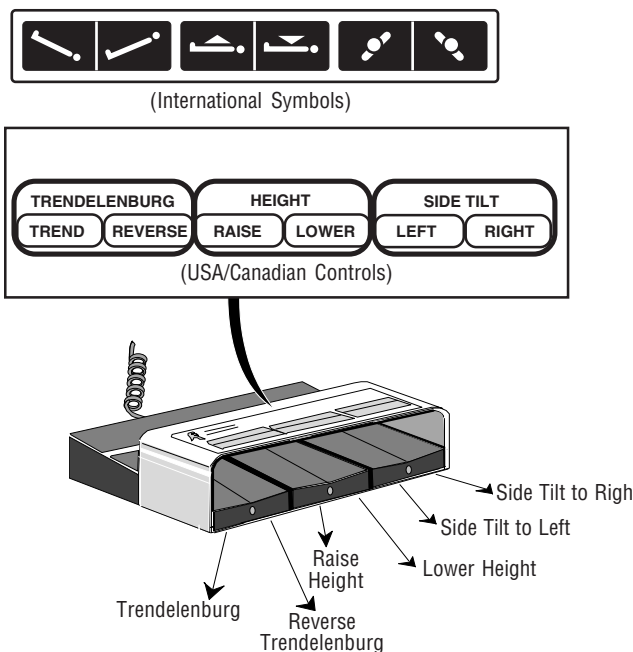

Figure 4-4. Foot Control
An optional foot control assembly is available for use in conjunction with the hand control. See Figure 4-4 for identification of foot control functions.
3. Adjust tabletop position using foot control positioning pedals, as follows (see Figure 4-4):